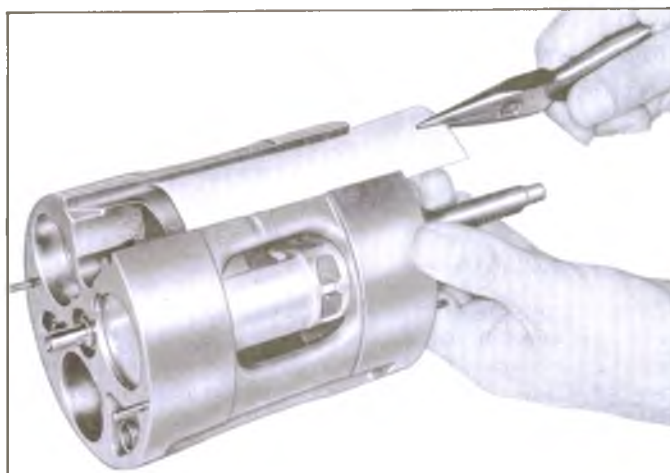

Fig. 17—Removing Suction Crossover Cover
6. Remove the suction crossover cover (fig. 17).